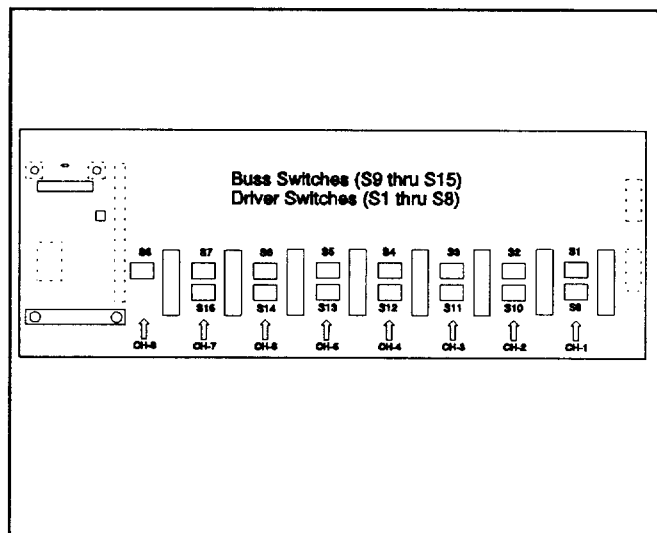
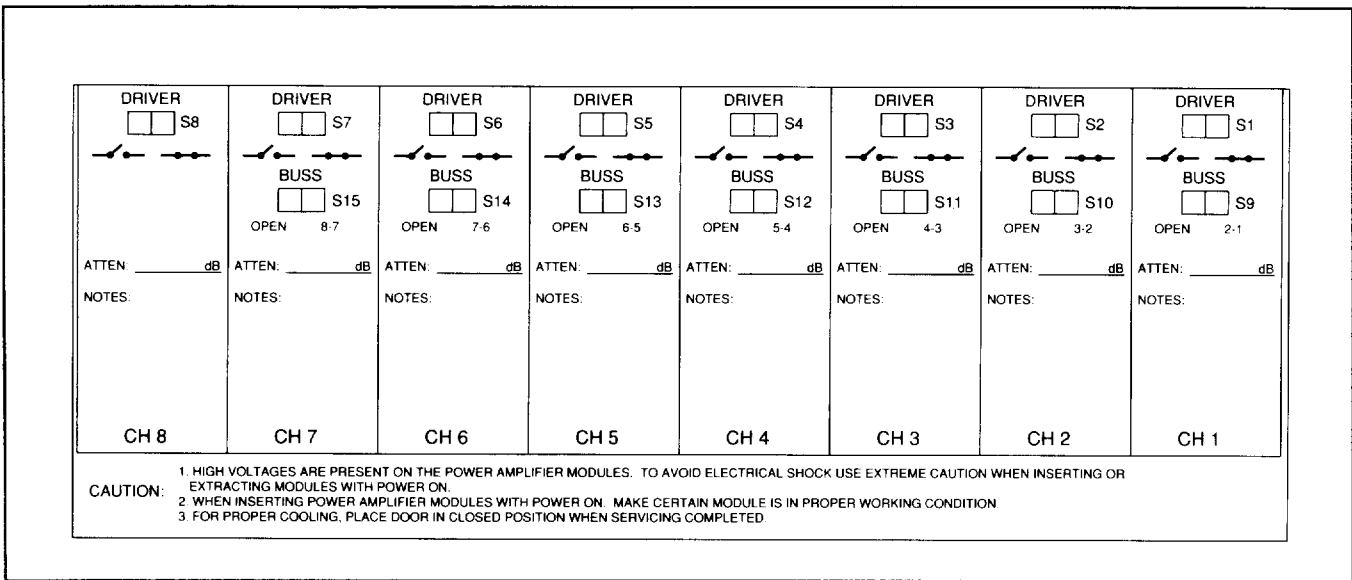

Figure 11 Location of Buss and Driver Routing Switches
Figure 12 Decal Inside Front Panel
To set up routing switches for independent operation, place associated buss switches (S9 through S15) to left-hand position (open). Place associated driver switches (S1 through S8) to right-hand position (closed). The routing switches are accessible when the front panel and power amplifier modules are removed from the main frame. Figure 11 illustrates function and designation of the routing switches. A decal (Figure 12) located inside the front panel allows the user to note the position of the switches and level of the attenuators.
To set up routing switches for parallel operation, place the desired channel buss switches (S9 through S15) to the right-hand position. Place corresponding channel driver switches to left-hand position, except for the channel which is to receive the input signal; set this driver switch to the righthand position. The routing switches are accessible when the front panel and power amplifier modules are removed from the main frame. Figure 11 illustrates function and designation of the routing switches.
**CAUTION:** *If the outputs of two or more output power modules are paralleled, the portion of the driver bus connected to the same modules also must be paralleled by closing the proper buss switches shown in Figures 11 and 13. Mismatched (non-parallel) or unassigned input paths to output power modules having paralleled outputs may cause fuses to blow within the modules.*